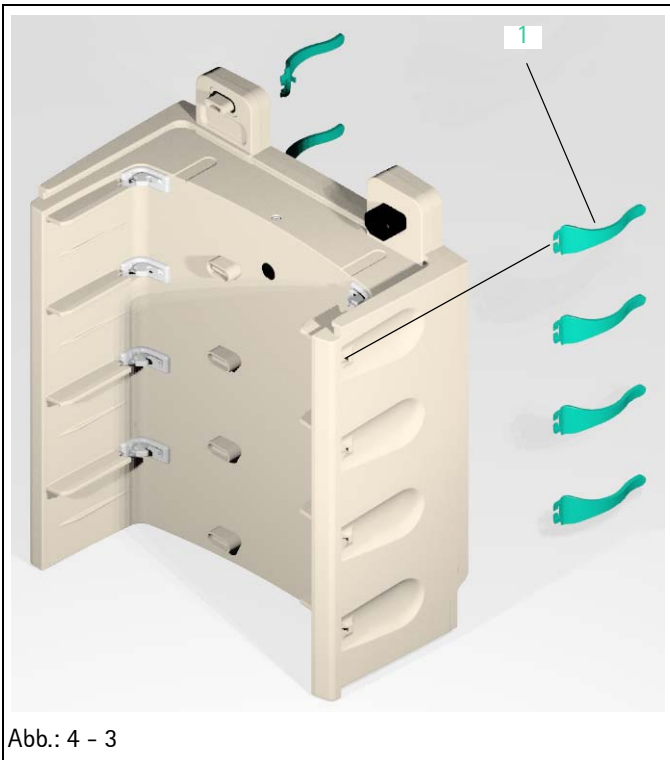

Abb.: 4 - 3
1. Pierce cover cap (Abb.: 4 - 2 / Item 4) with a screwdriver and pull cap out.
2. Unscrew screw (Abb.: 4 - 2 / Item 3) and remove screw together with the W-LAN cover (Abb.: 4 - 2 / Item 1).
3. Pull W-LAN module (Abb.: 4 - 2 / Item 2) out of the holder.
Legende zu Abb. 4 - 3: